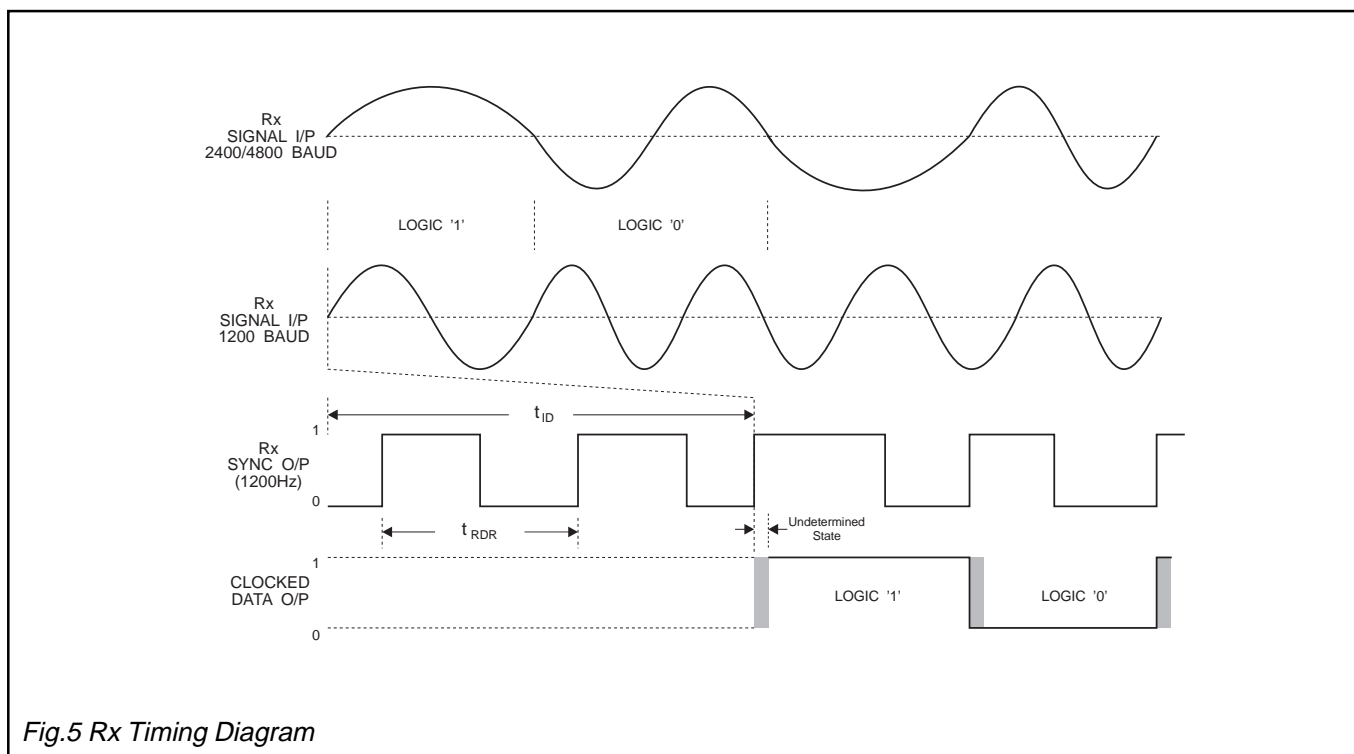

Fig.5 Rx Timing Diagram
| 12 | 14 | 13 | Clocked Data O/P: The recovered synchronous serial data output from the receiver. Data is latched out by the recovered clock, available at the "Rx Sync O/P," (See Figure 5). | | | | | | | | | | | | | | | | | | | | | | | | | | | | | | | | |
| 15 | 18 | 17 | Rx Sync O/P: A flywheel squarewave output. This clock will synchronize to incoming Rx FFSK data (See Figure 5). | | | | | | | | | | | | | | | | | | | | | | | | | | | | | | | | |
3. See Figure 5 (variation of BER with Input Signal Level).